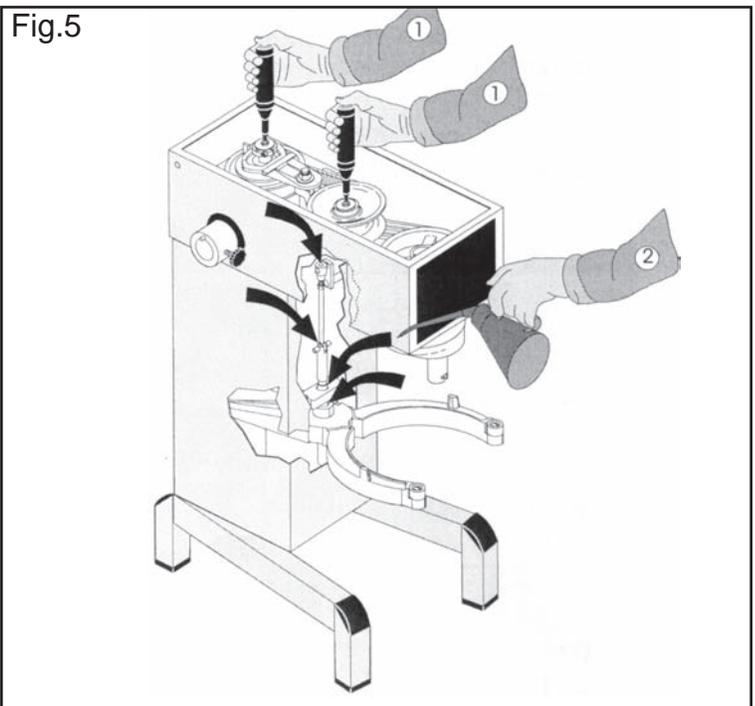

Fig.5
-Start the mixer and increase the speed to approx. 50%. Stop the mixer and open the lid on the top of the mixer. On the top of each of the two pulley set shafts is a grease nipple (fig. 5 point 1). Press grease through the grease nipples until the grease gun feels hard to press or until grease comes out between the shaft and the pulleys.
The movable parts of the bowl arms, the shaft and the lifting rod must also be lubricated with oil. Remove the rear covering and lubricate the marked points with an oil can. (fig.5 pkt.2)